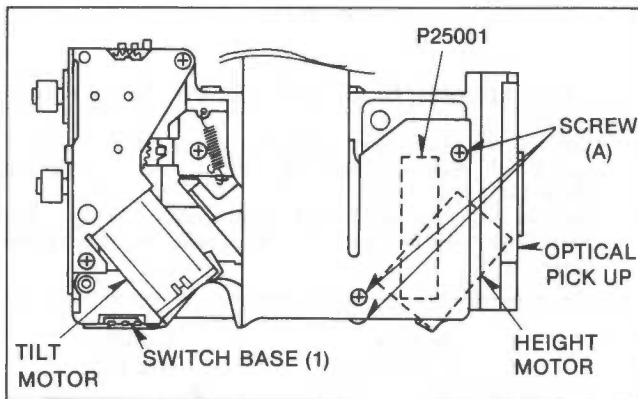

Fig. R19
1. Remove 3 screws (A) and disconnect connector P25001.
2. Unsolder 2 leads from Height Motor as shown in Fig. R19.